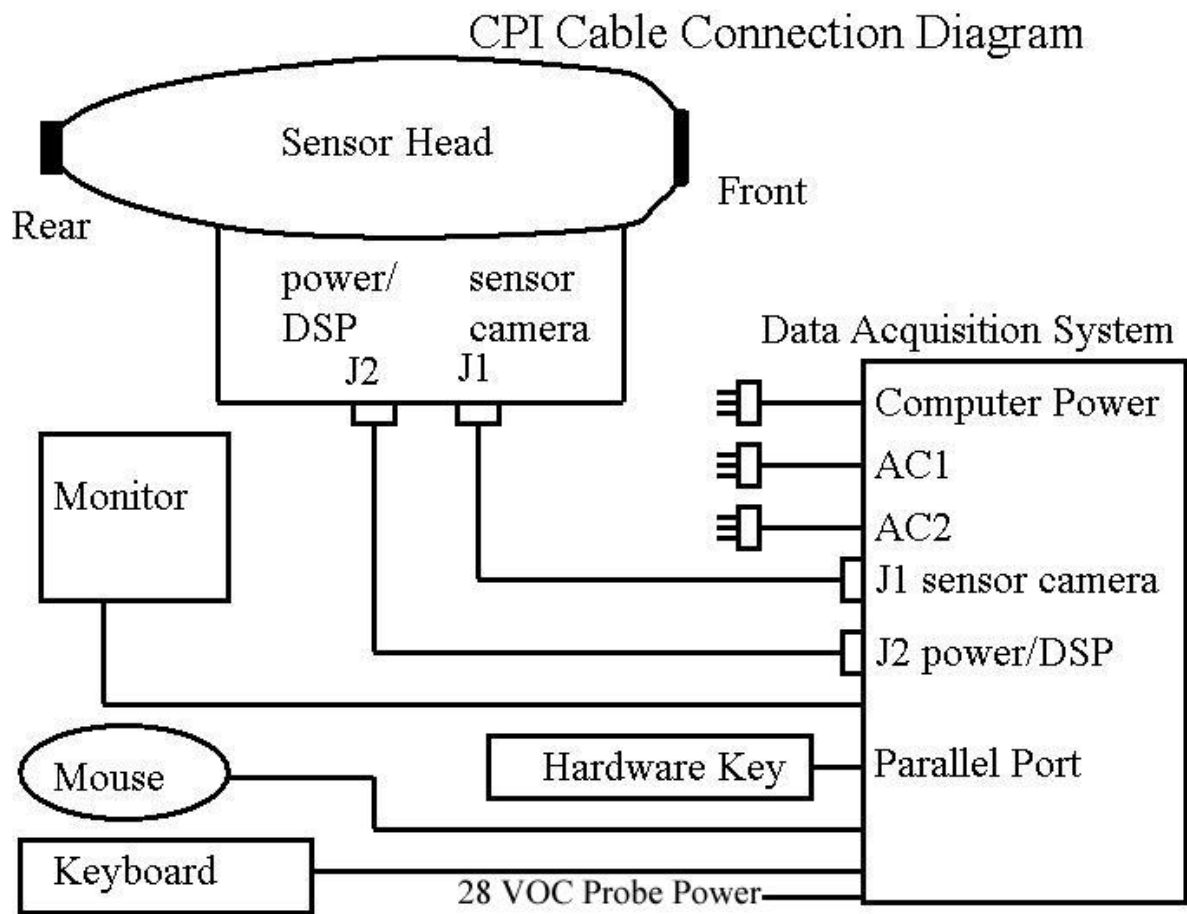

Figure 2.2.2 3V-CPI Cable Connection Diagram
2. Connect the Computer Power, AC1, and AC2 power cables to a 115 Volt AC source. The order of connection of the AC power cables is not important. **Figure 2.2.2** shows the 3V-CPI Cable Connection Diagram and **Figure 2.2.3** shows the back of the Data Acquisition System including the function of each outlet.
3. Connect the power cable to J2 on the Data Acquisition System. See **Figure 2.2.2**: 3V-CPI Cable Connection Diagram and **Figure 2.2.4**: Connecting the power to the Data Acquisition System.
11. Connect the Computer Power, AC1, and AC2 to the back of the Data Acquisition System. See **Figure 2.2.2**: 3V-CPI Cable Connection Diagram and **Figure 2.2.11**: Connecting the computer power and Sensor AC1 & AC2 power.
3. Connect the mouse, keyboard, and monitor to the back of the Data Acquisition System. See **Figure 2.2.2**: 3V-CPI Cable Connection Diagram and **Figure 2.2.3**: Back of the Data Acquisition System.